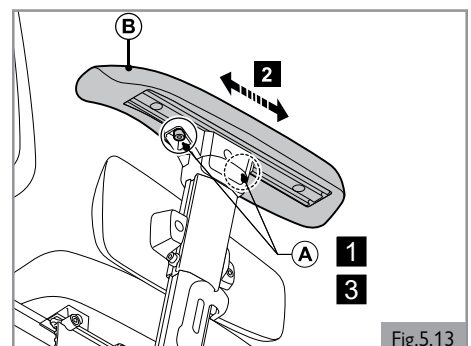

Fig.5.13
**Armrest pad depth (Fig. 5.13)**
1. Loosen (A) by one turn.
2. Adjust (B) to the desired position.
3. Tighten (A). See section 9 for specified torque values.